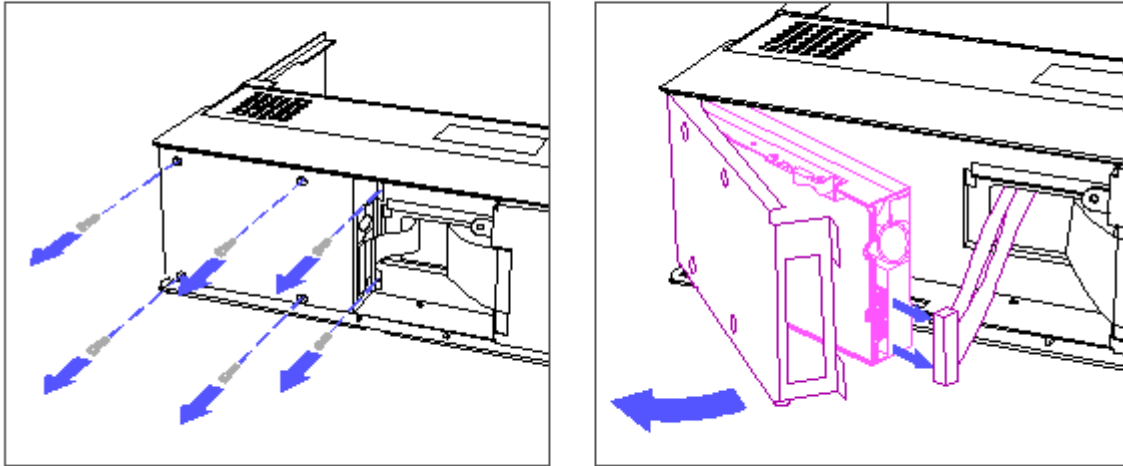

Figure 5-17. Removing the Diskette Drive
2. Carefully disconnect the cable from the diskette drive (Figure 5-17).
3. Using a Torx T-15 screwdriver, remove the screws securing the diskette drive cage; then swing the drive cage out (Figure 5-17).
4. Using a Torx T-15 screwdriver, remove four screws securing the diskette drive to the drive cage (Figure 5-17).